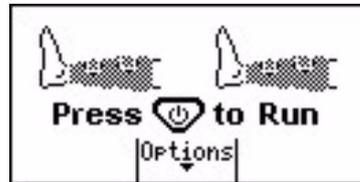

Figure 4 - LCD Display - Garments Connected
- 4.5 Check that the connection and garment type are confirmed correctly on the display. Figure 4 shows two single-chamber calf garments connected to the pump.